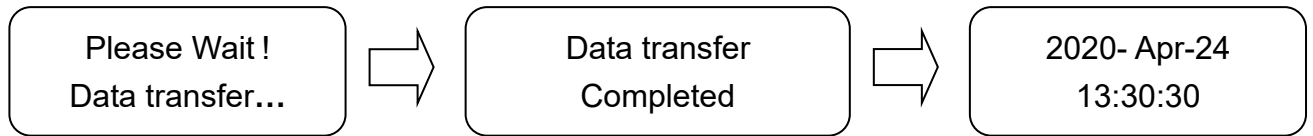

Figure 31
b) After completing a sterilization cycle, the data will be stored to USB flash drive; and the recorder returns to stand-by mode. The sequences of storage message are shown in the Figure 31.